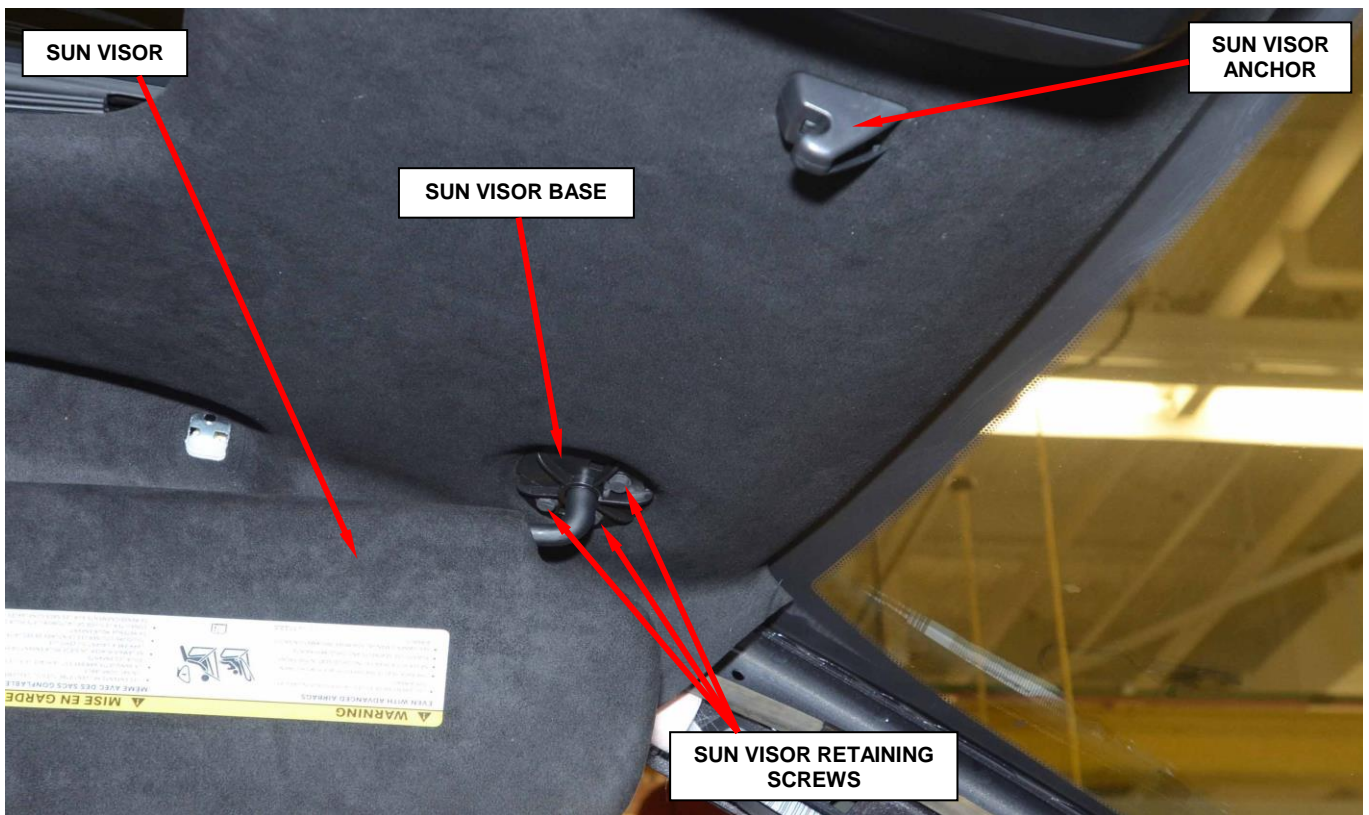

Figure 8 – Sun Visor Retaining Screws and Anchor
19. Remove and save the right and left side sun visor screw covers (Figure 8).
20. Remove and save the three retaining screws holding the right and left side sun visors (Figure 8).
21. Remove and save the right and left side sun visor anchors (Figure 8).
34. Install the right and left side sun visor anchors (Figure 8).
36. Install the three sun visor retaining screws for the right and left side sun visors (Figure 8).